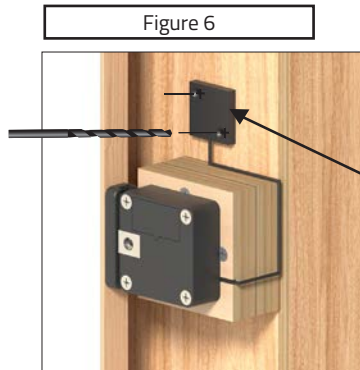
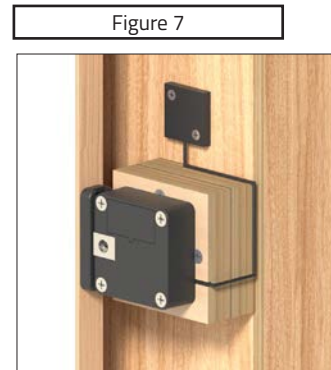

Figure 6
Figure 7
11. Use supplied M3x20mm screws to install antenna block to cabinet (*see figure 6*). Use $\frac{3}{32}$ " drill bit to create pilot holes, but make sure depth is limited to $\frac{1}{4}$ " deep MAX. Antenna can be placed anywhere above the lock on the back or side of the cabinet within wire reach. Choose a location that will be easy to find from the front of the Invisidoor. Use supplied wire clips to manage antenna wire to remove any slack and bundle wire that is not used (*see figure 7*).